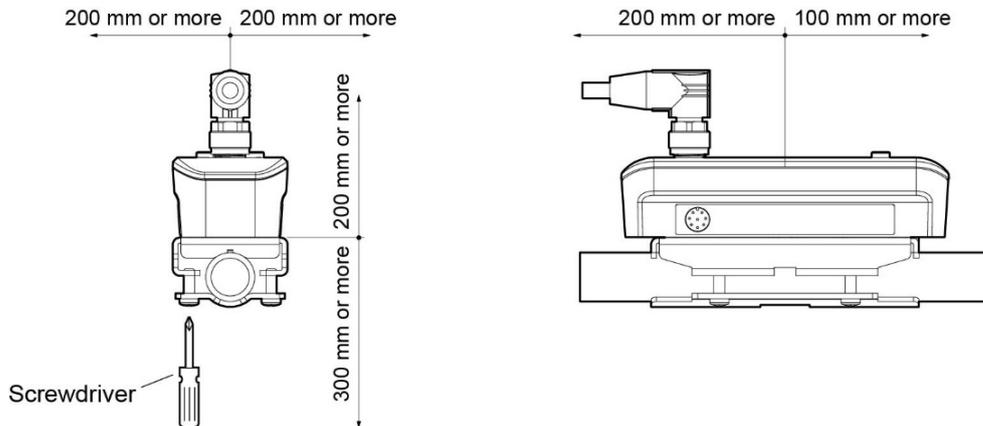

Fig. 2-1 Space required for flowmeter mounting location
- (1) Ensure that the location is a straight pipe as indicated in "2.1.1 Conditions on straight pipe".
- (2) Ensure there is space for maintenance around the pipe to which the flowmeter is to be mounted. (Refer to "Fig. 2-1".)